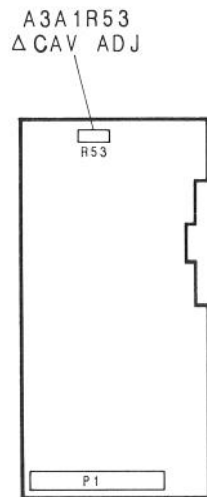
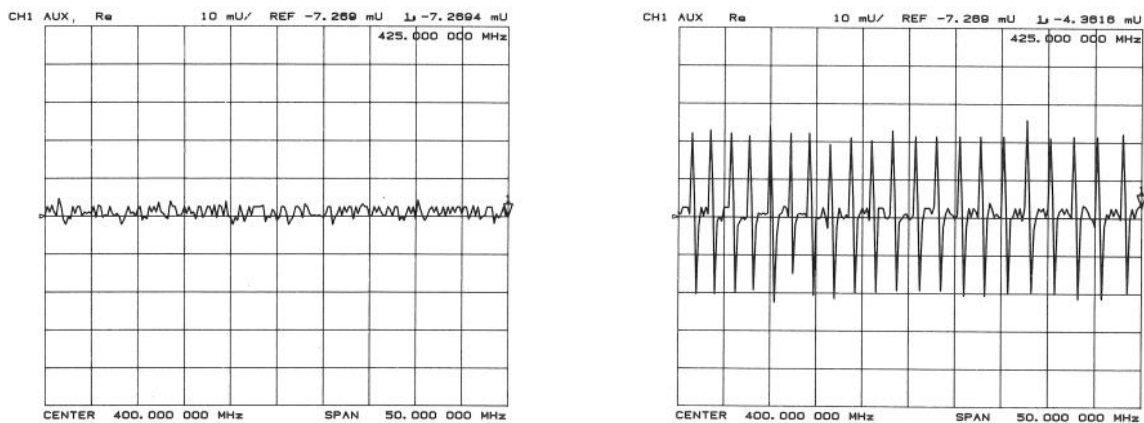

Figure 16. Location of "CAV ADJ" adjustment.
Figure 17. Display of Acceptable versus Excessive Spikes.
6. Adjust the CAV ADJ potentiometer (see Figure 16) on the A3 source bias to eliminate spikes on the CRT (see Figure 17).